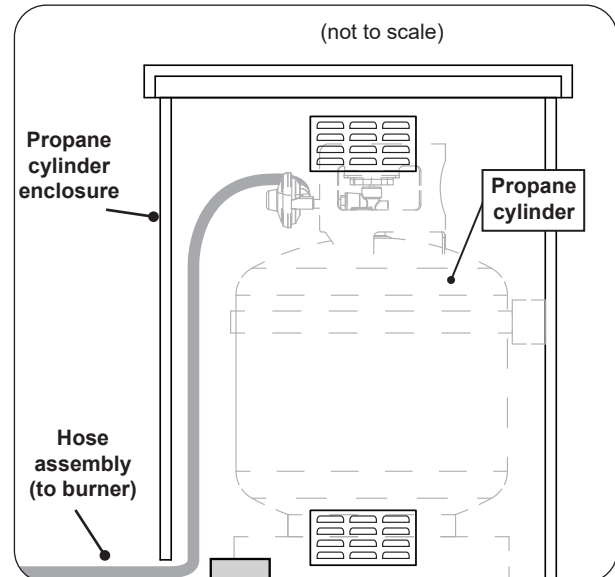

Fig. 34-3 L.P. Cylinder placement
3. The propane cylinder (not included) is to be located inside the separate propane cylinder enclosure (see Fig. 34-3).